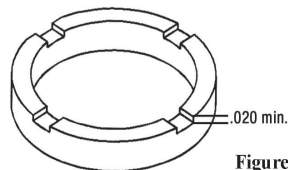

Figure 14
- Remove impeller/inner drive assembly (items 4A, 4, 5, 5A). Inspect impeller and drive for signs of wear or damage. Look for signs of rubbing, damage and wear to the impeller and inner drive. See figure 13. Check the impeller thrust ring and bushing for wear. See figure 14.